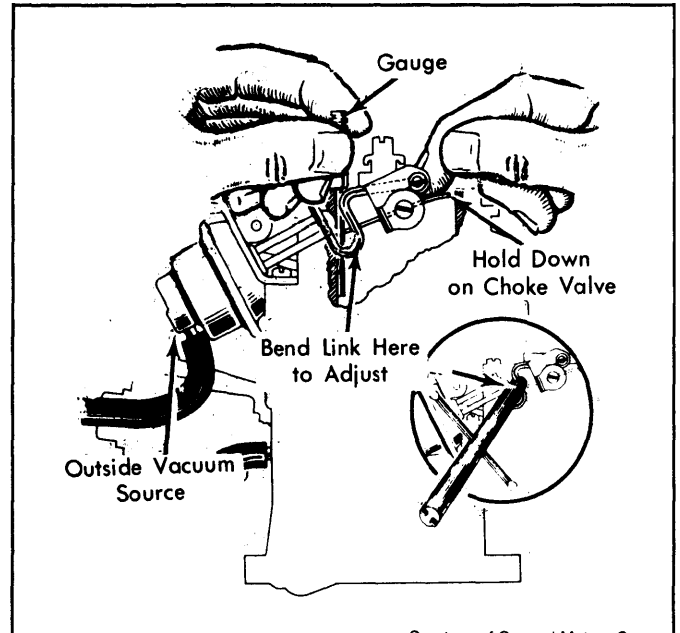

Fig. 5: Adjusting Vacuum Break
1) Place cam follower on highest step of fast idle cam. Use outside vacuum source and apply enough vacuum to seat diaphragm. See Fig. 5. Diaphragm plunger should be fully seated. If used, bucking spring should be fully compressed.